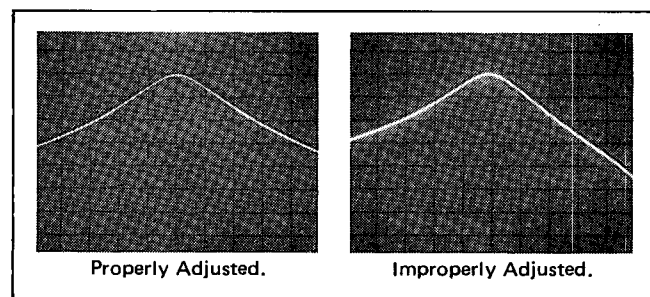

Figure 5-4. Symmetry Adjustment.
l. Adjust A5C15 (Stage 5 Peak Adj.) so that the peak of the response curve is in the center of the display (see Figure 5-4).
m. Repeat Steps k and l until optimum adjustment (Figure 5-4) is obtained.